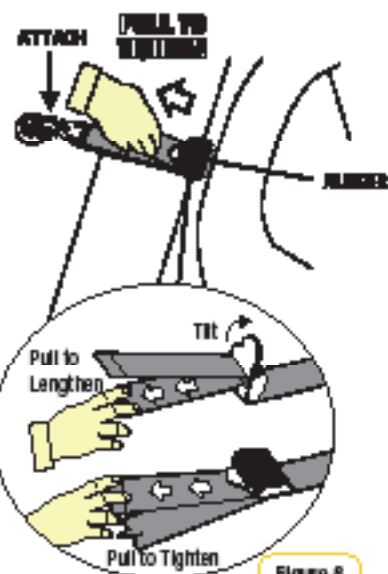

Figure 8
Step 8: Pull to tighten to remove all the slack from the upper anchorage strap. Create a firm installation by tightening the upper anchorage strap (refer to Figure 8).